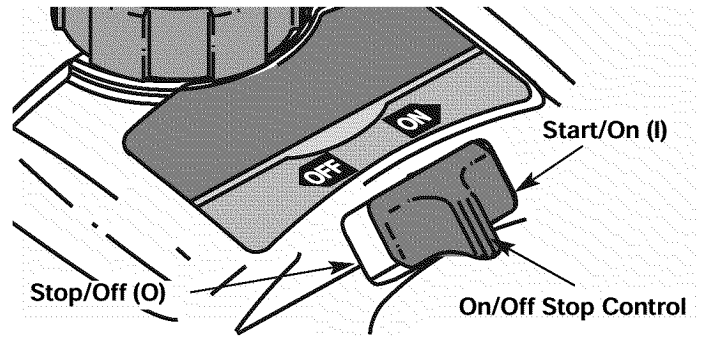
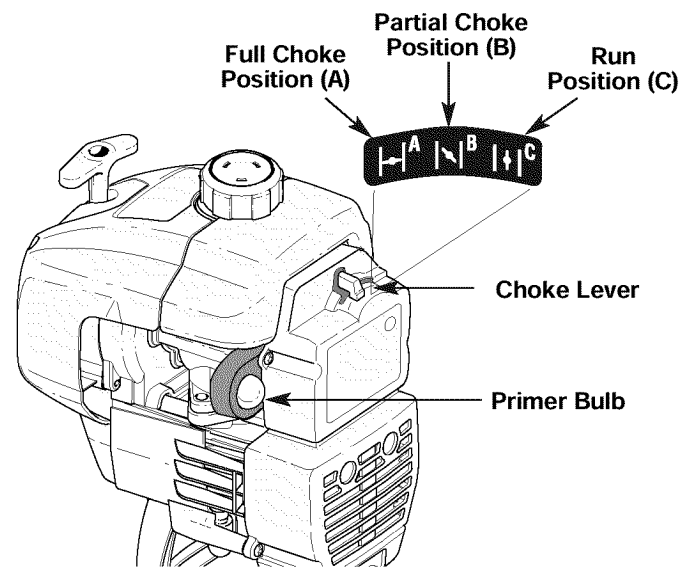

Fig. 7
Fig. 8
2. Put the On/Off Stop Control in the **ON (I)** position (Fig. 7).
3. Fully press and release the primer bulb 10 times, slowly, until **FUEL IS VISIBLE IN THE PRIMER BULB** (Fig. 8). If you can't see fuel in the bulb, press and release the bulb as many times as it takes before you can see fuel in it.
4. Place the choke lever in the **FULL** choke (**A** |←|) position (Fig. 8).
6. Place the choke lever in the **PARTIAL** choke (**B** |↘|) position (Fig. 8).
NOTE: If the engine floods while trying to start, place the choke lever in the **RUN** (**C** |↑|) position (Fig. 8). Squeeze the throttle control. Pull the starter rope briskly. The engine should start within three (3) to eight (8) pulls.
9. Squeeze the throttle control to warm up the engine for 5 to 10 seconds. Place the choke lever in the **RUN** (**C** |↑|) position (Fig. 8).
NOTE: Choking is unnecessary when starting a warm engine. Put the On/Off Stop Control in the **ON** position (Fig. 7), and start in **PARTIAL** choke (**B** |↘|) position (Fig. 8). After starting, place the choke lever in the **RUN** (**C** |↑|) position.
2. Put the On/Off Stop Control in the **OFF (O)** position (Fig. 7).